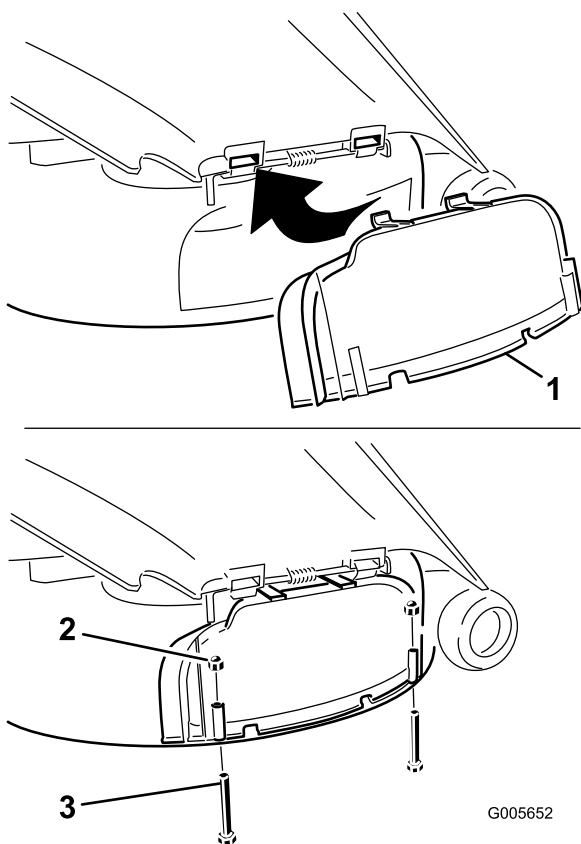

Figure 30
3. Lift the grass deflector and slide the tabs on top of the discharge cover under the grass deflector retaining rod. Rotate the discharge cover down over the opening, and onto the lower lip of the mower (Figure 30).
4. Secure the discharge cover to the lower lip of the mower with two bolts (1/4 x 2-1/2 inches) and two cap nuts (1/4 inch) as shown in Figure 30.